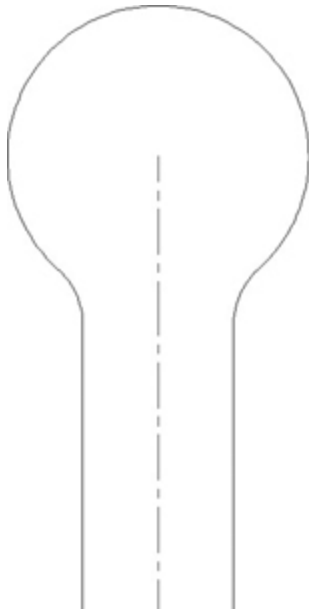

Figure 8-41
- 5 Save your drawing. Your drawing should resemble Figure 8-41.